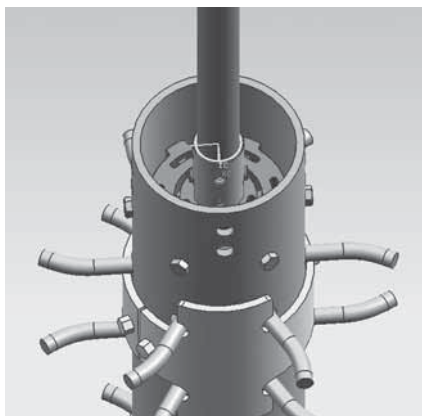

Fig.11 Connection between tap changer body with manual driving mechanism
4.1.5.1 Cut the driving insulating shaft to the right length according to requirement and rivet it with geneva box (pay attention to directivity, referred to Fig.11). Make the joint pin of the tap changer body completely insert into recessed groove of the driving mechanism. Connection